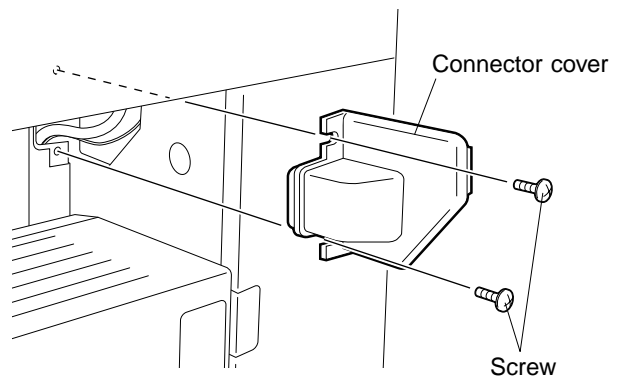

Fig. 6-3
3. Detach OCT connector cover. (See Fig. 6-3)